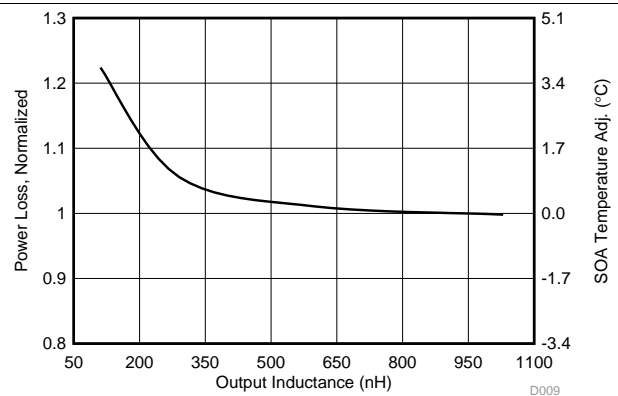

Figure 9. Normalized Power Loss vs. Output Inductance
- Normalized Power Loss for output inductor ≈ 1.01 (Figure 9)
- SOA adjustment for output inductor $\approx 0.18^\circ\text{C}$ (Figure 9)